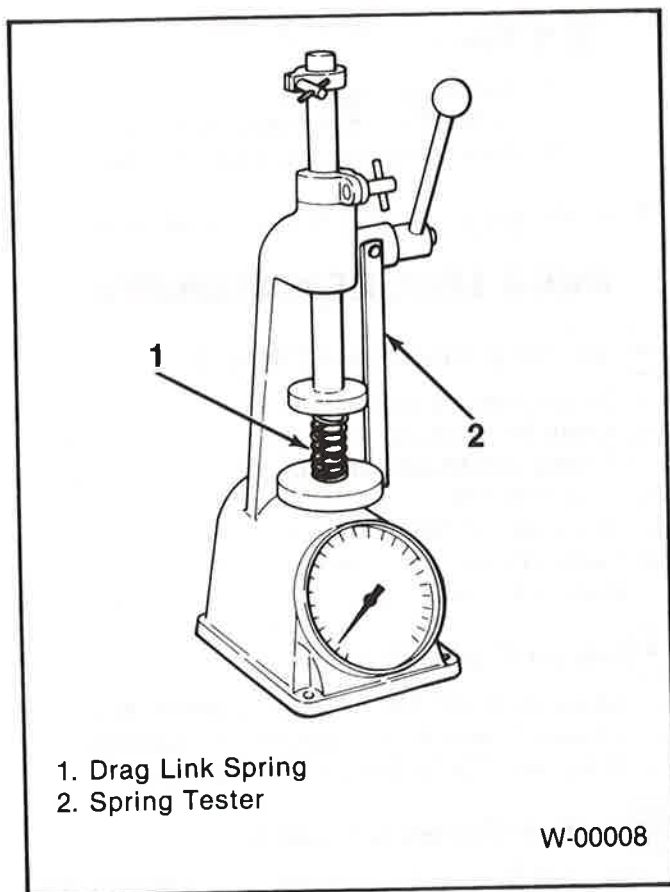

Figure 5. Measuring Spring Tension
3. Springs (7 and 11) tension. Using a spring scale (figure 5). The production tension is 157 kg (346 lbs.) at 27.5 mm (1.08 inches) length. Replace the spring if the tension is less than 130 kg (287 lbs.) at 27.5 mm (1.08 inches) length.